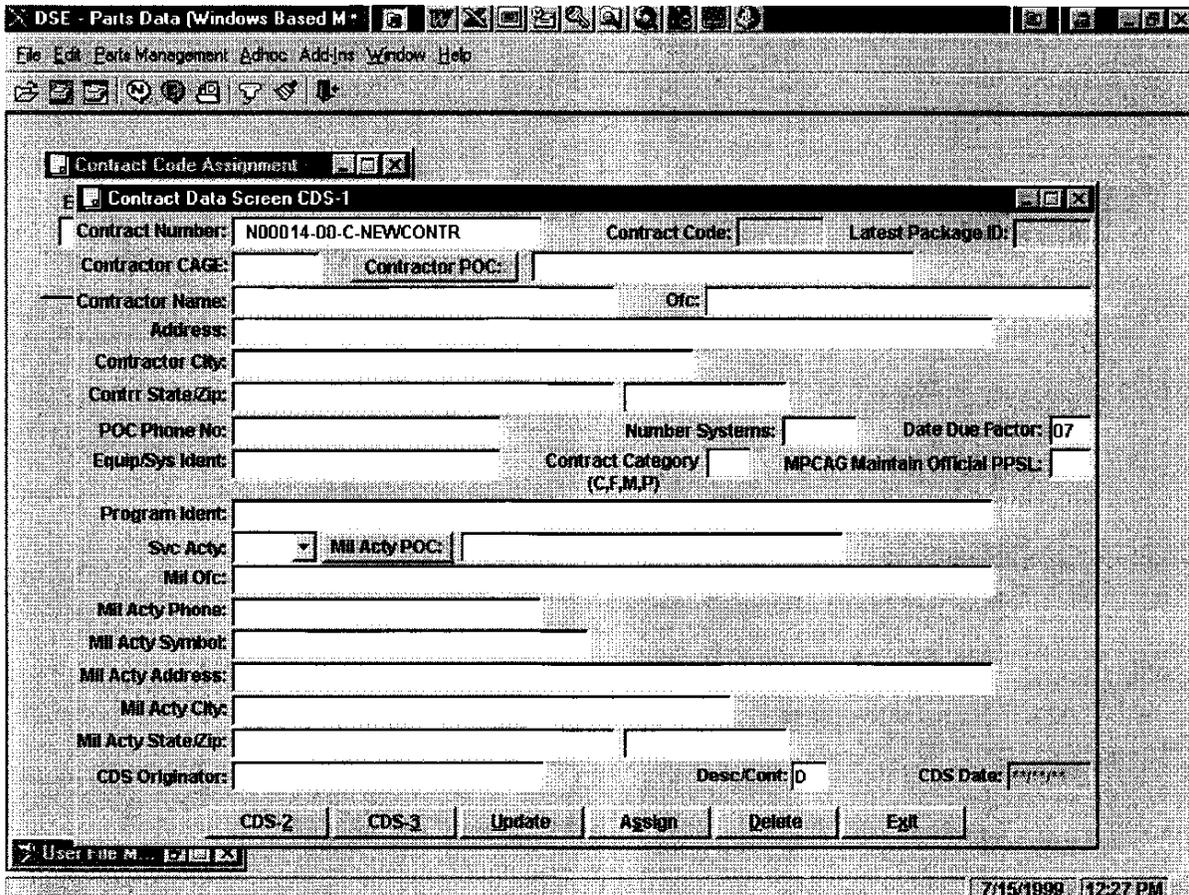

Figure 4.3b - CDS-1- See paragraph 4.3.1 below.
g. The following Contract Data Screens (CDS) will allow for inputting of data pertaining to a contract record. See Figures 4.3b through 4.3j.
o. CDS-3 is active and in the forefront. CDS-1 and CDS-2 are inactive but open behind CDS-3 screen. Other options are the same as identified under Figure 4.3b.